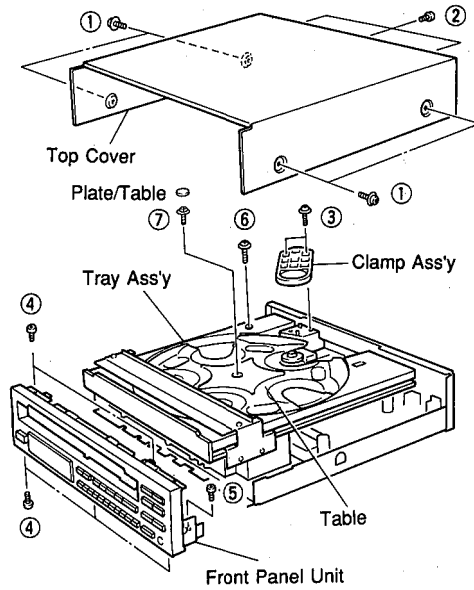

Fig. 1
- Remove 4 screws (1) and also 3 screws (2) as shown in Fig. 1.
- Remove 2 screws (3) as shown in Fig. 1.
- Remove 5 screws (4) and also 1 screw (5) as shown in Fig. 1.
- Take off the Front Panel Unit slowly as shown in Fig. 1.
- Remove 1 screw (6) as shown in Fig. 1.
- Remove the Plate/Table as shown in Fig. 1.
- Remove 1 screw (7) and then take off the Table as shown in Fig. 1.